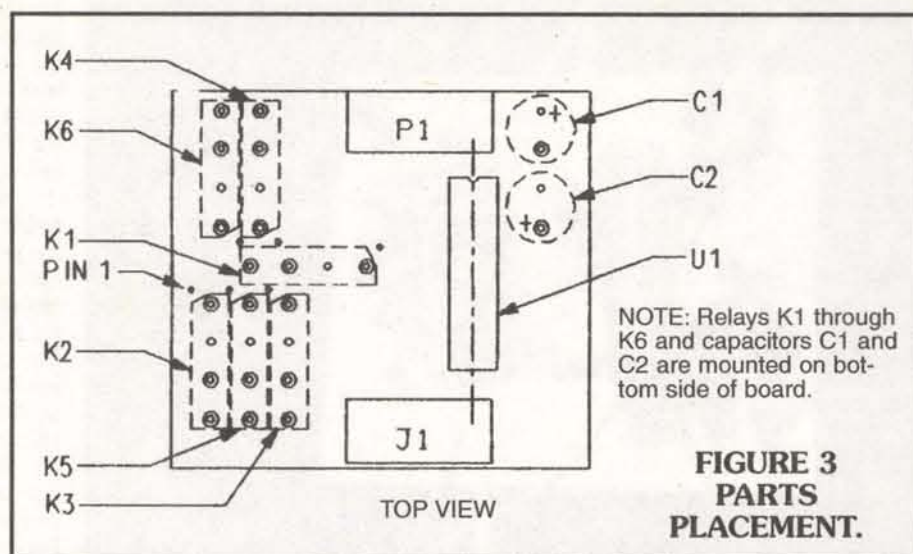

FIGURE 3
1) First install relay K1 from the non-foil side of the board. Refer to Figure 3, and note the notch on relay's case to indicate pin 1. Solder pin 2 to ground. For now, this connection provides the only mechanical holding of K1.
when the chip is laying flat on the board, the ground pins touch the copper foil. Again, refer to Figure 3. The grounded pins are 2, 6, 9, 11, 12, 13, 15, and 18.
3) Position U1 on the circuit board with the end of pin 5 about 3/16 inch from pin 1 of relay K1. Refer to Figure 3 and note that U1 is perpendicular with K1, thus forming a "T." While carefully holding U1 in position, solder any one of the ground pins to the copper foil of the circuit board. Now check the positioning of U1 with respect to K1. With only one ground pin soldered, you can still shift U1 a little. When you are satisfied with U1's position, solder the remaining ground pins. To avoid over heating U1, keep one finger on U1's top, and quit soldering when it gets hot.
8) Referring to Figure 3, install the negative 100 uF filter capacitor C1 with its positive lead through the ground hole. Solder the positive lead to ground. Install the positive 100 uF filter capacitor C2 with its negative lead through the ground hole. Solder the negative lead to ground. Cut the unground leads of C1 and C2 to a length 1/8 inch above the circuit board.